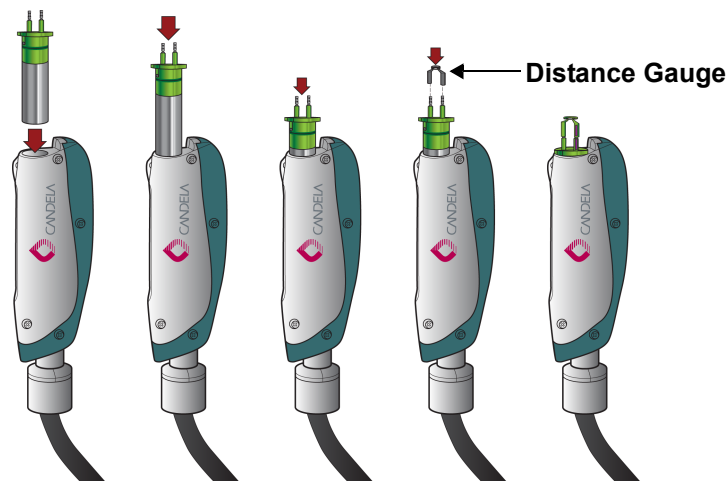

Figure 2-17: Install Lens Cartridge into Handpiece Assembly and Install Distance Gauge
2. Align the flat on the Lens Cartridge with the flat protrusion on the Handpiece Assembly (see **Figure 2-17**) and then gently push the Lens Cartridge into place (see **Figure 2-17**).
3. Install the Distance Gauge on the top of the Lens Cartridge (see **Figure 2-17**).